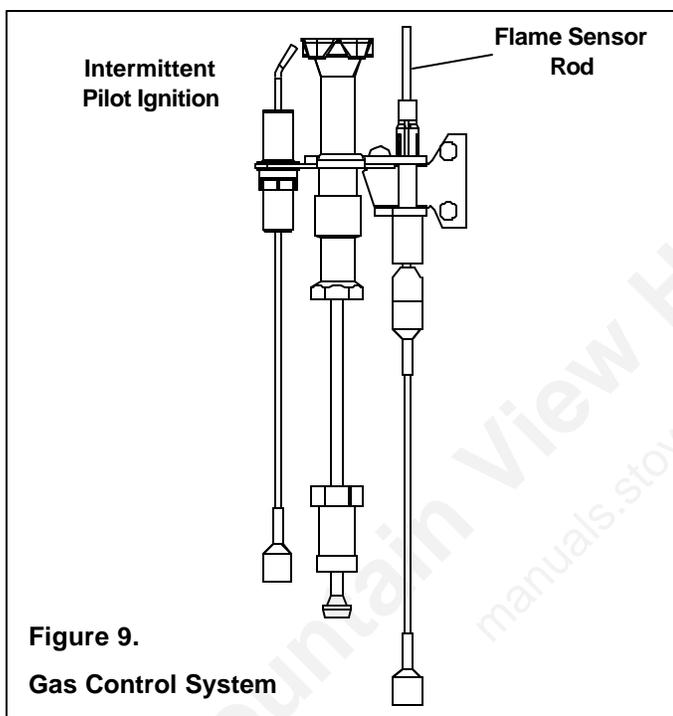

Figure 9.
* The clearance to the ceiling is measured from the top of the unit, excluding the standoffs (see Figure 9).